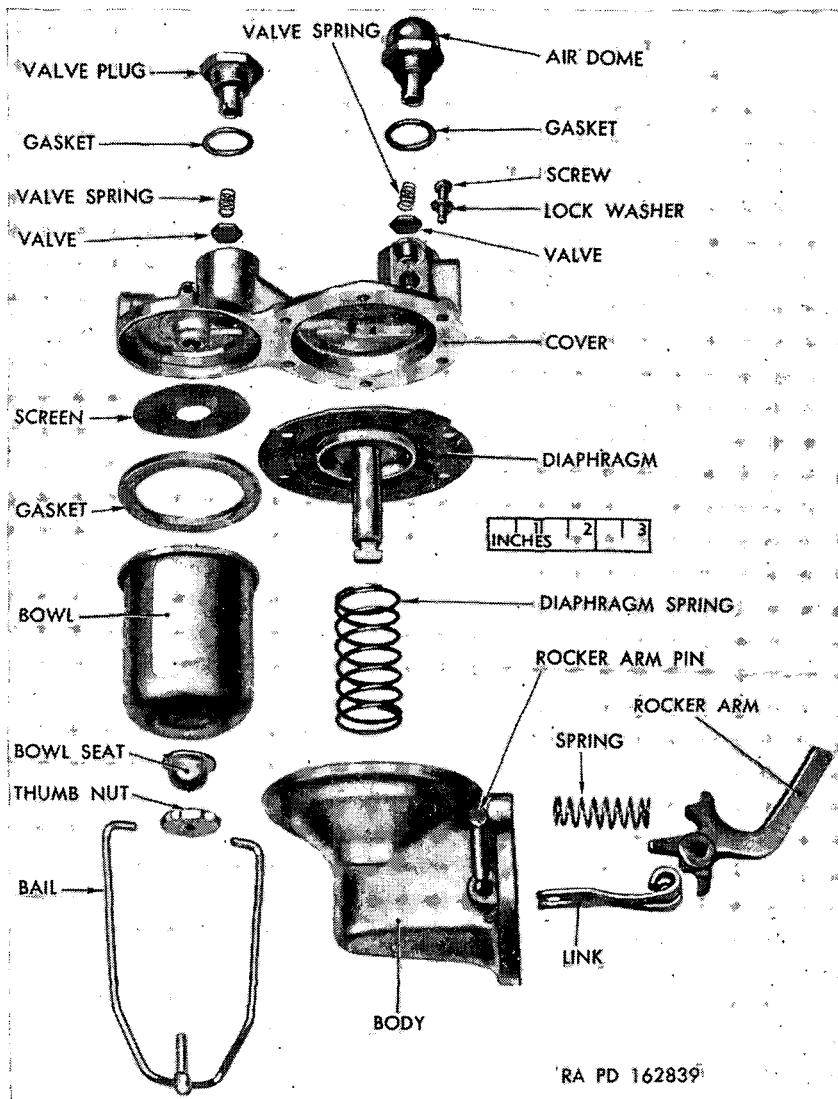

Figure 13. Fuel pump—disassembled (typical series P construction).
a. Assemble Body (fig. 13).
- (1) Install rocker arm, spring, and link in body. Loop for pin in link should be up. Aline holes in rocker arm and link with arm pin hole in body and drive in rocker arm pin. Install washer over small end of arm pin and peen over end of pin.
- (2) Soak new diaphragm in clean kerosene. Fuel oil may be used, but do not use shellac or sealing compound. Place diaphragm spring over pull rod boss in body and insert diaphragm. Insert flat of pull rod through slot in link, and retain diaphragm by turning 90 degrees in either direction.